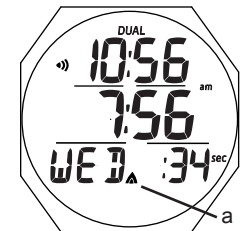

Fig. 4B - WATCH MAIN (Home with Away as Dual)
- > Up Arrow icon (Fig. 4Ba) if Away is selected as Main Time.